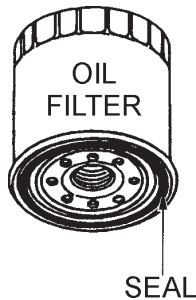

Figure 13. Oil Filter
1. Replace the engine oil filter (Figure 13) every 200 hours.